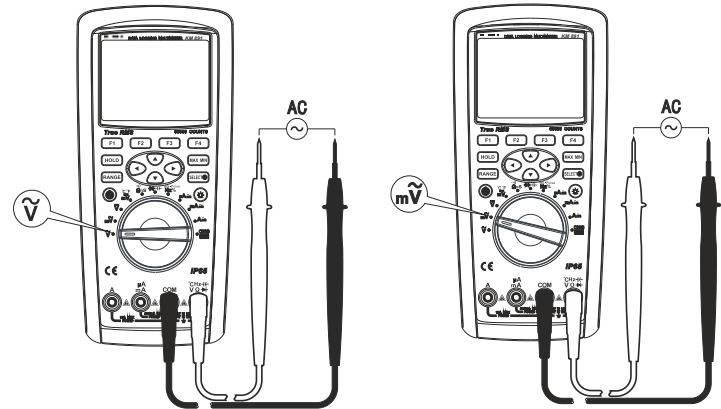

Figure 5
- 2) Set the rotary switch to \tilde{V} or $m\tilde{V}$ as shown in Figure 5. Connect the test leads to the power or load under test in parallel.